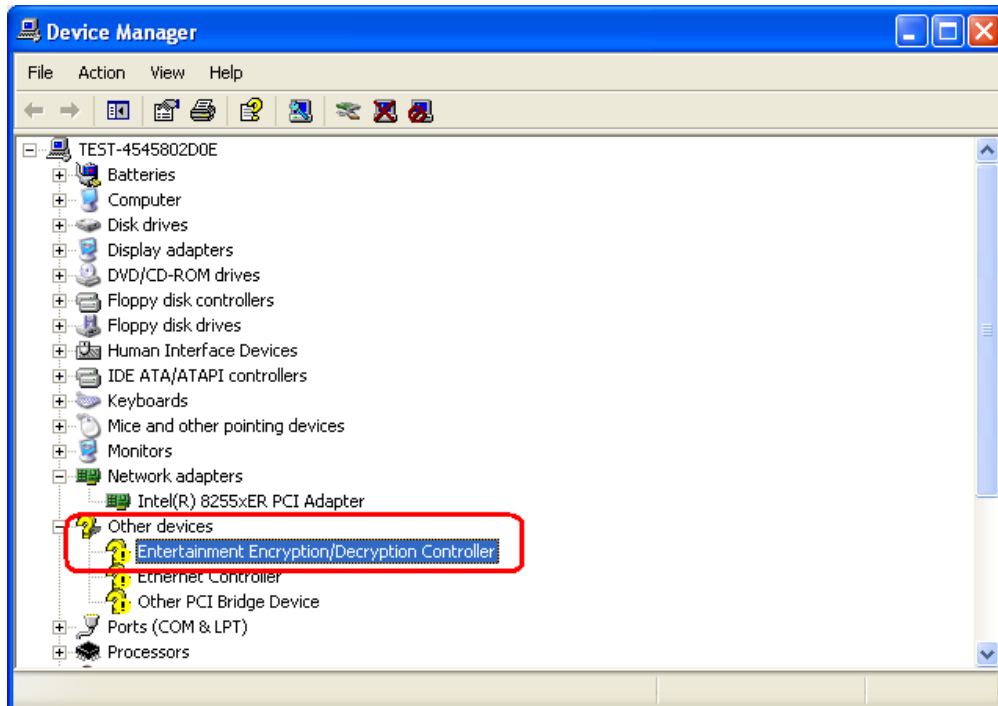

Figure 7-34: Entertainment Encryption/Decryption Controller (Device Manager)
- Step 2:** Right-click the **ENTERTAINMENT ENCRYPTION/DECRYPTION CONTROLLER** option listed under **OTHER DEVICES** in **Figure 7-34**.